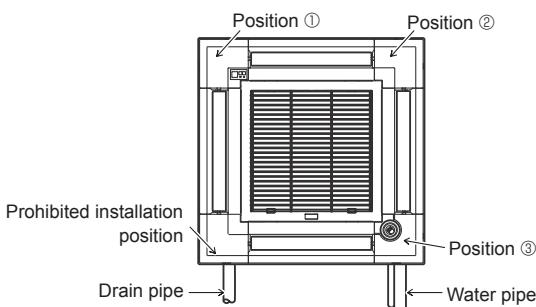

Fig. 7-11
The signal receiver corner panel can not be installed on the drain pipe side for the main unit. (Refer to Fig. 7-11)
- The i-see Sensor corner panel should be fixed onto the grille ① with screw ③.
* If the position of the i-see Sensor was changed from default position (position ③) to the other position, change the function settings. (Fig. 7-11)
- The i-see Sensor corner panel can not be installed on the drain pipe side for the main unit. (Refer to Fig. 7-11)